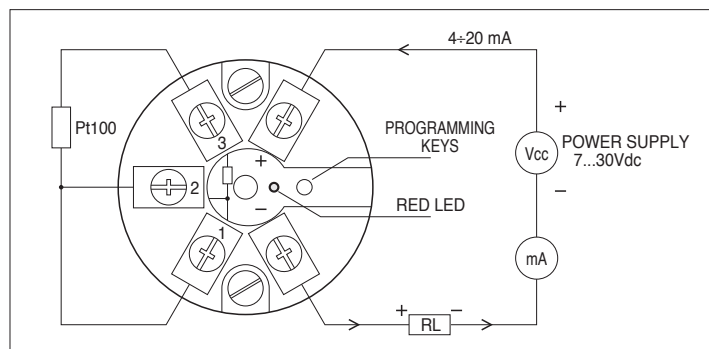

Fig. 2 Wiring diagram of the transmitters.
Output	4...20 mA (or 20...4 mA) 22 mA in case of incorrect programming or temperature out of range (note 1 and Fig. 2).
Fig. 2 reports the connection diagrams for the transmitters in the current loop. In order to obtain the maximum precision, the connection to the Pt100 should be performed with 3 wires and with wires having the same diameter so to grant the same impedance in each connection. The symbol RL (load) represents any device in the current loop that is to say an indicator, a controller, a data logger or a recorder.
1. Connect the transmitter to set-up as shown in Fig. 2 and set the Pt100 calibrator at the required temperature suitable for 4 mA (for example, assuming that you want to set the range $-50 \dots +200^\circ\text{C}$, you will set the calibrator to -50°C or equivalently you will connect a resistance of $80,31\Omega$ between terminals 1 and 3 while 1 and 2 shorted).